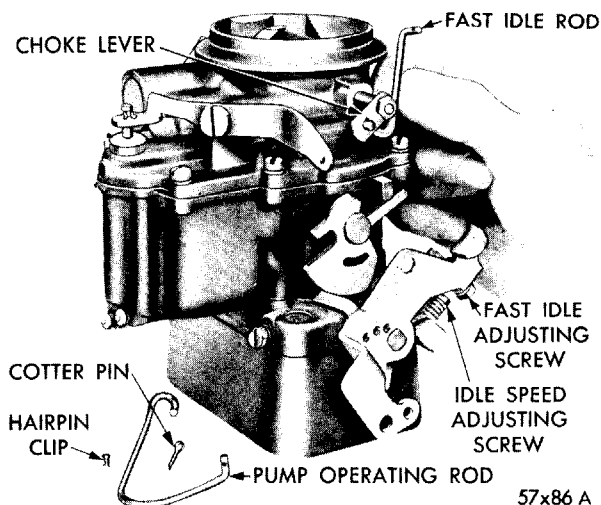

Fig. 3—Removing or Installing Fast Idle Rod
(1) Place the carburetor assembly on repair block Tool C-3225. (This Tool is used to protect the throttle valves from damage and to provide a suitable base for working.) Disconnect cross-over choke rod.
(2) Remove the cotterpin that holds the pump operating in the center hole of the throttle lever. Disengage rod from lever.
(3) Remove the fast idle rod. (Rotate fast idle rod far enough to disengage from the thermostat crank arm, as shown in Figure 3.)
(4) Remove the air horn attaching screws and remove the air horn.
(5) Disengage the accelerator pump plunger rod from the rocker arm by removing the clip. Remove the bowl vent valve clip from the center groove on plunger rod, then slide plunger and rod out of air horn. Remove the bowl vent valve. Slide the spring seat and compression spring off rod.